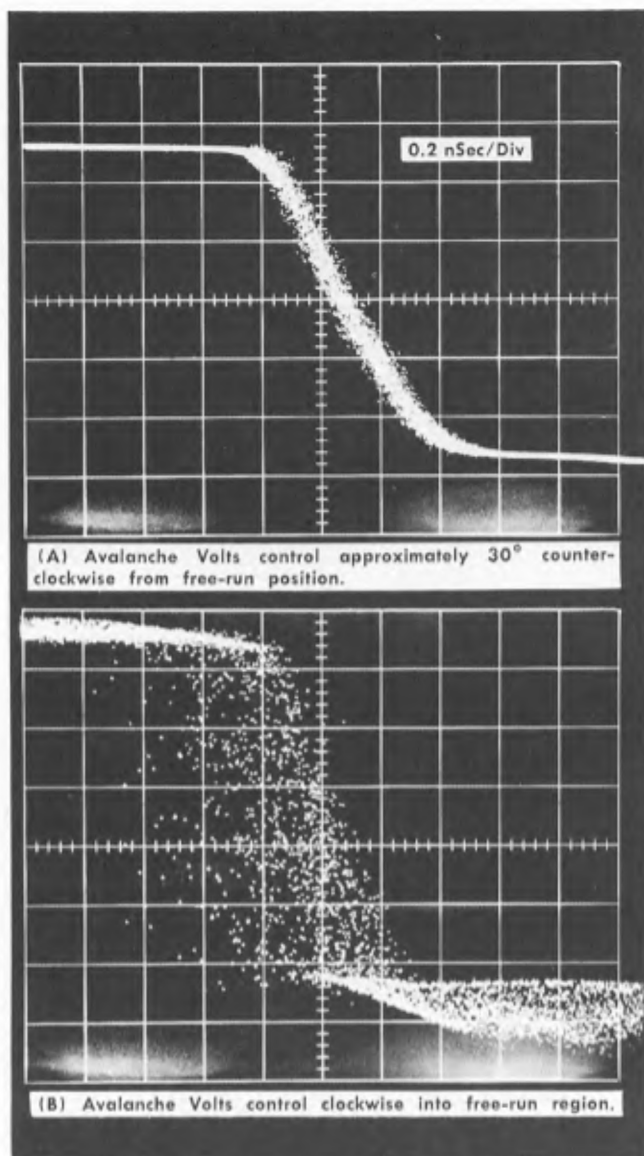
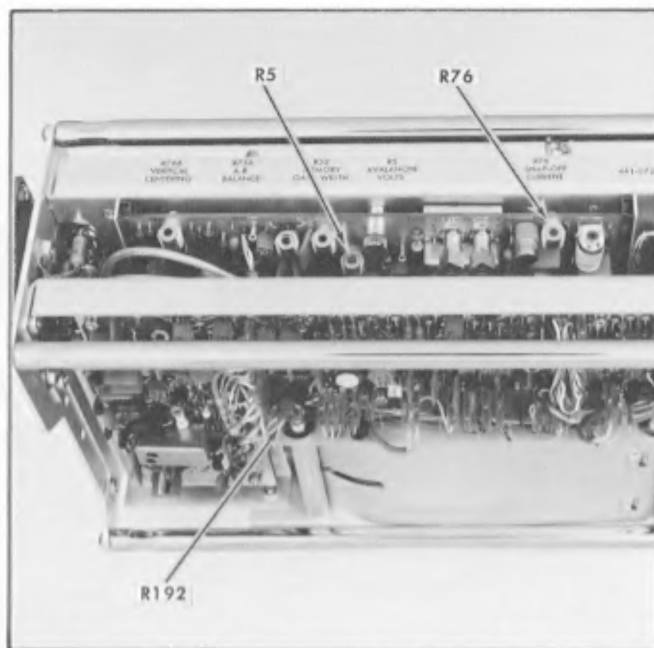

Fig. 8-8. (A) Correct; (B) incorrect Avalanche Volts (R5) adjustments.
Fig. 8-9. Locations of Avalanche Volts (R5), Snap Off Current (R76) and Channel A Bridge Balance (R192) controls.
Incorrect Avalanche Volts control adjustment is very obvious through the whole CRT display. Both a correct and an incorrect adjustment are shown in Fig. 8-8. The two displays were caused by approximately 30° difference in setting of the control.
b. With a small blade screwdriver, adjust the Avalanche Volts control, R5 shown in Fig. 8-9 and located on the Center Board, a few degrees clockwise until the display breaks up as shown in Fig. 8-8. Now back the control a few degrees counterclockwise past the point where the display noise disappears.
b. Still displaying Channel A, use the A POSITION control to set the free run trace to the graticule centerline. Change the A mVOLTS/DIV switch to 100, and then to 50 if the trace doesn't move off screen. In either the 100 or the 50 position, adjust the A Bridge Bal control, R192 (location shown in Fig. 8-9) to return the trace to the graticule centerline. It is possible that the control will not have enough range, so leave it at its end of adjustment in the direction that brings the trace closest to the graticule centerline.
k. Set the Timing Unit for 0.1 ns/div sweep rate and measure the negative step 10% to 90% risetime as in Fig. 8-11. If the risetime is other than 0.35 ns, adjust the Snap Off Current control (R75 in Fig. 8-9). Clockwise rotation increases the time between the 10% and 90% points, and also reduces transient response aberrations. Counterclockwise rotation reduces the time between the 10% and 90% points, and increases the transient response aberrations. Set the control for a risetime of 0.35 ns as shown in Fig. 8-11.